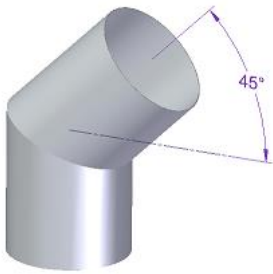
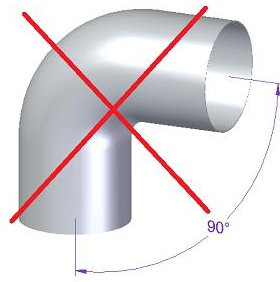

Figure 34 - Correct elbow angle
Figure 35 - Incorrect elbow angle
- * Under rated operating conditions, the circulation of combustion gases should create a draught of -12 Pa about one meter above the chimney throat. For proper installation, at least 2 meters of metal flue tubing, with the same diameter as the unit's smoke outlet, should be fitted vertically above the unit. Additional lengths to this tubing may use piping sections with a max angle of 45°. Figure 34 and Figure 35 illustrate the correct and incorrect angles for pipe elbows, should they need to be installed.